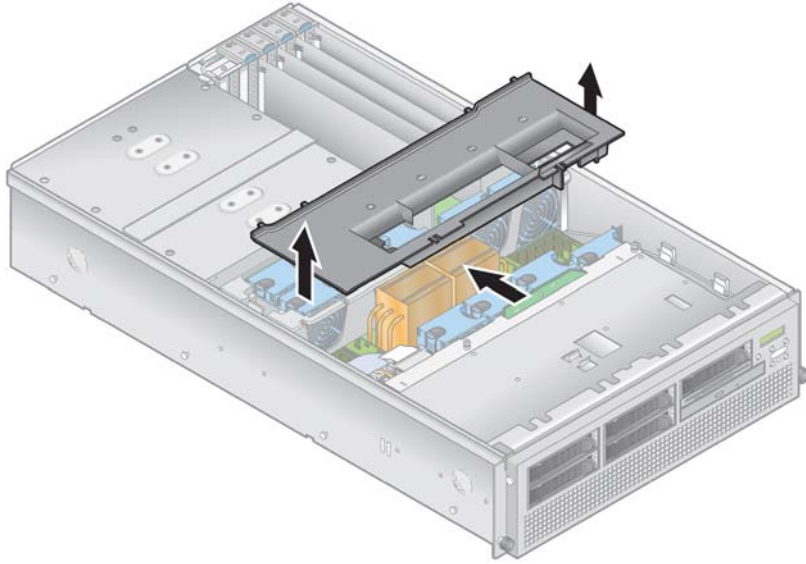

FIGURE 5-18 Removing the Main Air Baffle
- 3. Remove the main air baffle (see FIGURE 5-18).**
2. **Remove the main air baffle (see FIGURE 5-18).**
2. Remove the main air baffle (see FIGURE 5-18).